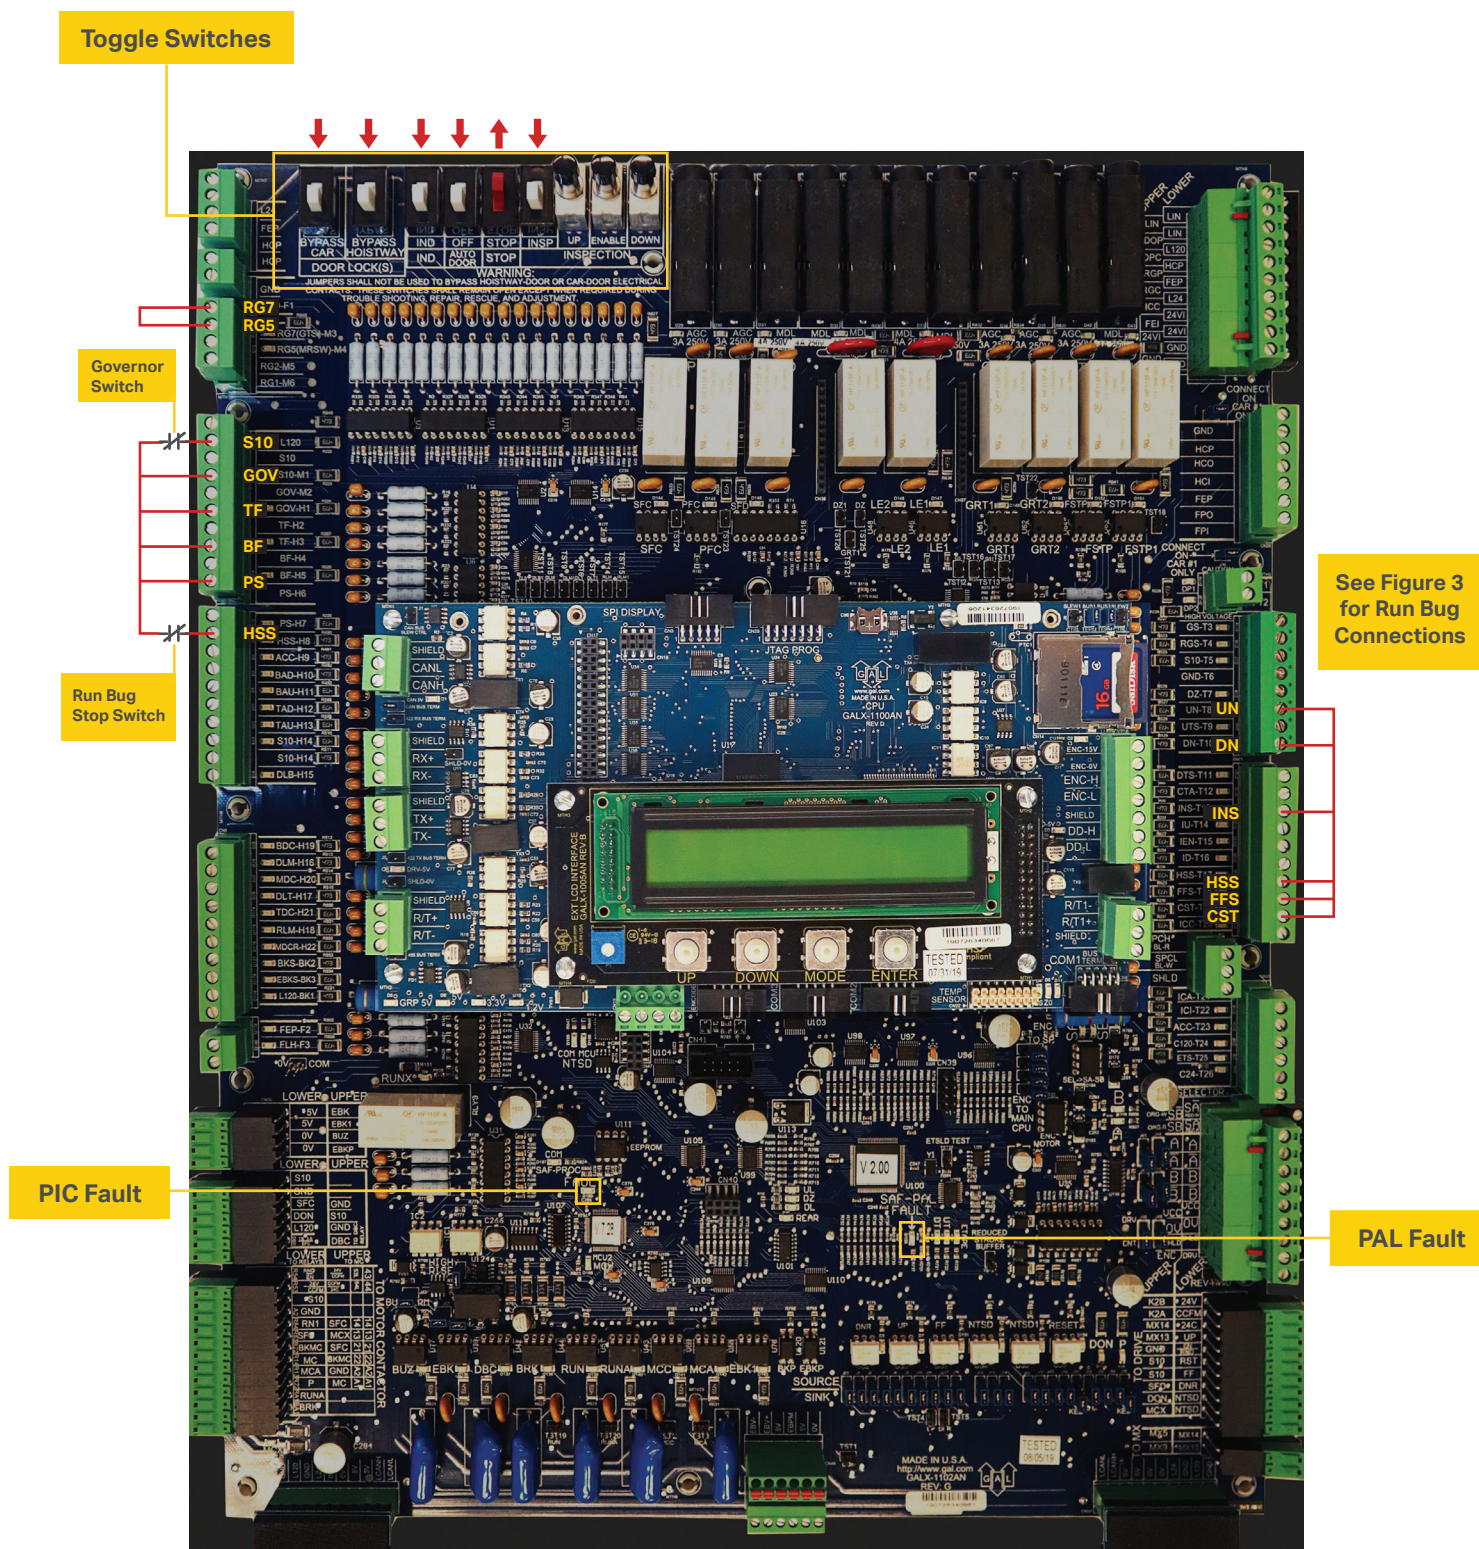

Figure 4: GALX-1102AN Main I/O Board
- Set the toggles switches on the GALX-1102 Main I/O Board as shown in **Figure 4**.
- Verify the PIC and PAL fault LEDs are off. See the GALX-1102AN Main I/O Board in **Figure 4**. If these LED's are on, refer to the GALaxy IV adjustment manual for possible causes of these faults.
with Run Bug. See Figure 4